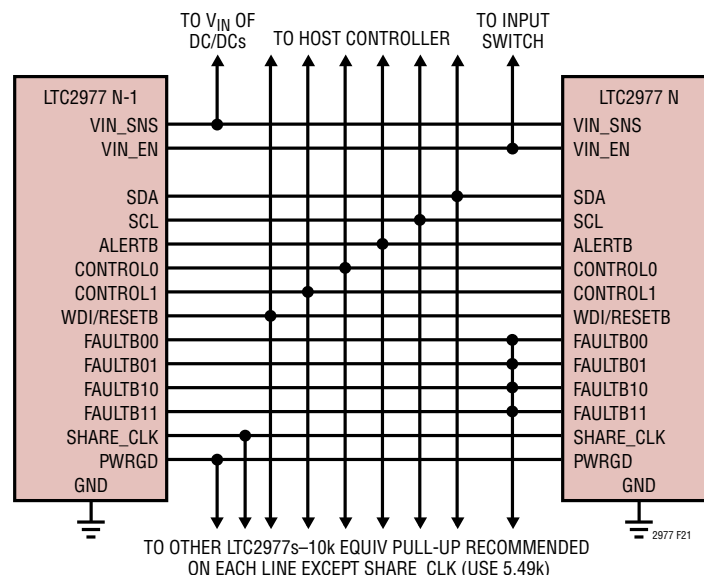

Figure 21. Typical Connections Between Multiple LTC2977s
Figure 21 shows how to interconnect the pins in a typical multi-LTC2977 array.
- The FAULTBz n lines can be connected together to create fault dependencies. Figure 21 shows a configuration where a fault on any FAULTBz n will pull all others low. This is useful for arrays where it is desired to abort a start-up sequence in the event any channel does not come up (see Figure 22).
- PWRGD reflects the status of the outputs that are mapped to it by the MFR_PWRGD_EN command. Figure 21 shows all the PWRGD pins connected together, but any combination may be used.